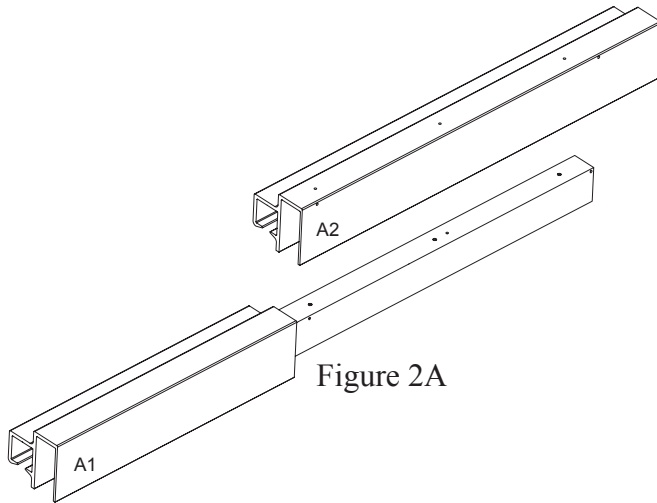
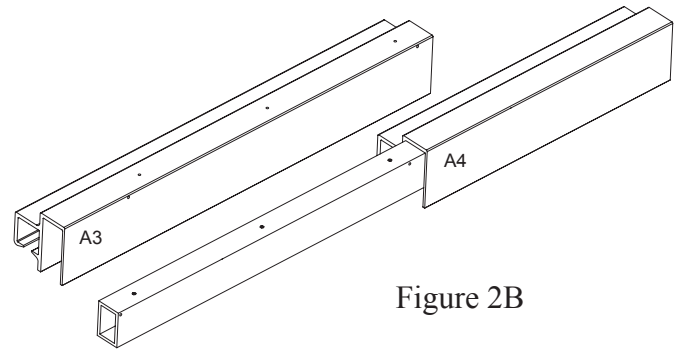

Figure 2A
Figure 2B
3. For gate openings greater than 24 feet, tracks are required to be spliced. Align short left track (A1) to long right track (A2) and insert splice block as shown in Figure 2A. Line up pre-drilled holes, attach with frame bolts (E1), splice bolts (E2), flat washers (J), and frame nuts (H). Tighten all nuts thoroughly. Align long left track (A3) to short right track (A4) and insert splice block as shown in Figure 2B. Line up pre-drilled holes, attach with frame bolts (E1), splice bolts (E2), flat washers (J), and frame nuts (H). Tighten all nuts thoroughly.
Tracks: Top and Bottom Tracks are labeled in the bottom left corner on the front face of the track. For gate openings up to and including 24’, there will be a single top track identified as ‘A1’ and a single bottom track identified as ‘A3’. For gate openings over 24’, it is necessary to splice Parts ‘A1’ (short left) and ‘A2’ (long right) as shown in Figure 2A (Page 3) and to splice Parts ‘A3’ (long left) and ‘A4’ (short right) as shown in Figure 2B (Page 3). Each track part will also be marked with a three digit number (the last 3 digits of the work order), followed by a hyphen and a unique number starting with ‘1’ and then proceeding integrally if necessary to identify each gate where there are multiple gates on the order.